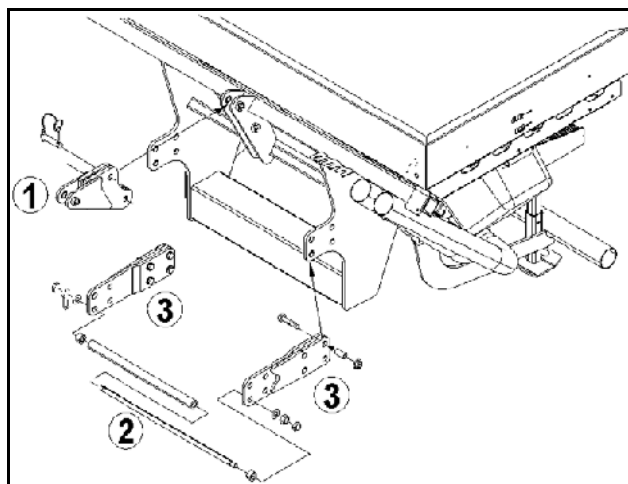

Fig. 35
1. Fit the upper link extension (Fig. 35/1) with two pins on the FRS and secure with clip pins.
2. Release the lower link support (Fig. 35/2) from the standard lower link attachment points.
3. Secure the lower link support on the lower link extensions (Fig. 35/3) Ensure that the anti-rotation lock is correctly fitted.